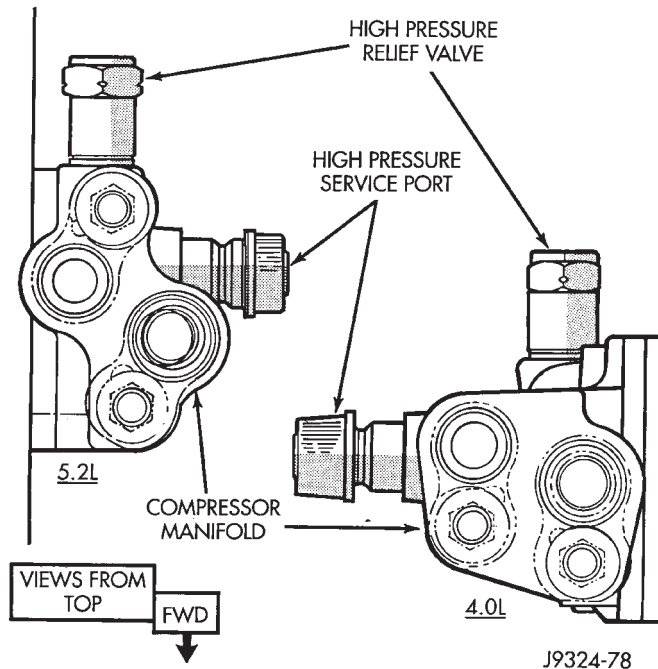

Fig. 57 High Pressure Relief Valve - Typical
(1) Disconnect and isolate the battery negative cable.
(2) Recover the refrigerant from the refrigerant system. See Refrigerant Recovery in this group for the procedures.
(3) Turn the relief valve counterclockwise to remove it from the compressor manifold (Fig. 57). Install a plug in, or tape over the opened relief valve fitting on the compressor manifold.